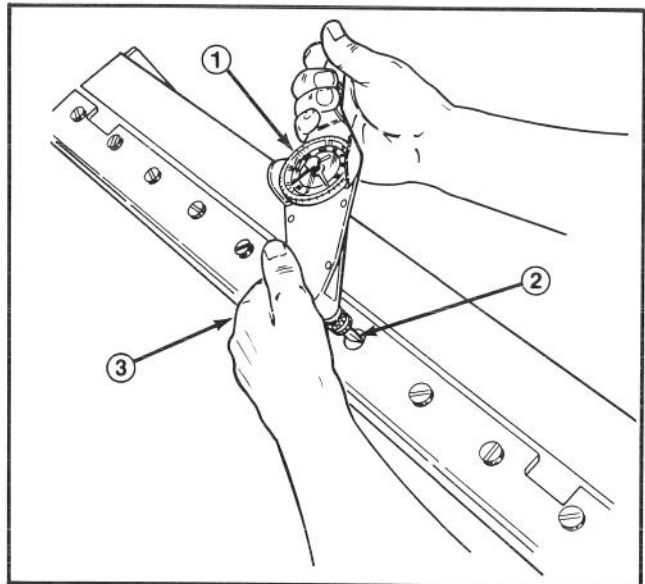

Figure 25
3. Use a torque wrench and Part No. 51-0880 special tool to finish tightening the screws (Fig. 25). Torque the screws to 250 in.-lb (28 Kgm) beginning with the center screw and tightening alternate screws toward each end to insure the bedknife will be flat against the bedbar.